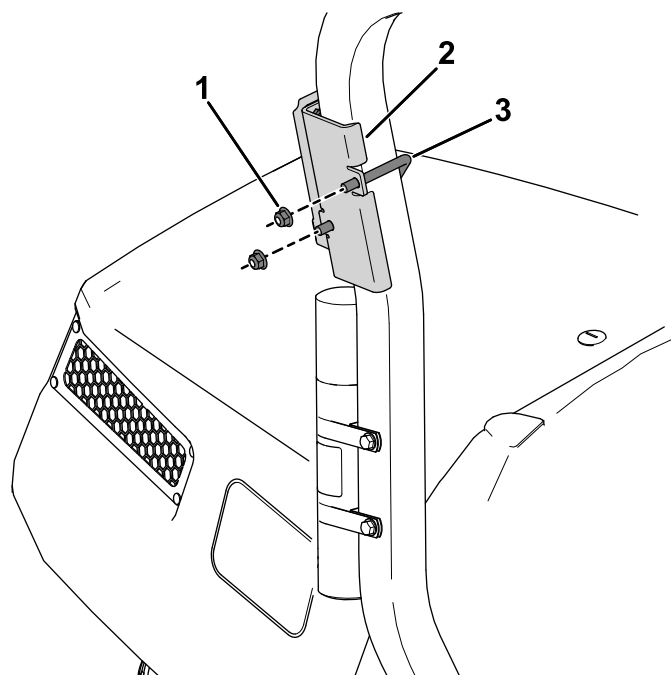

**Figure 10**
1. Use 4 hex-head bolts (#10 x 1 inch) and 4 locknuts (#10) to secure the telematics device to the device bracket (Figure 10).